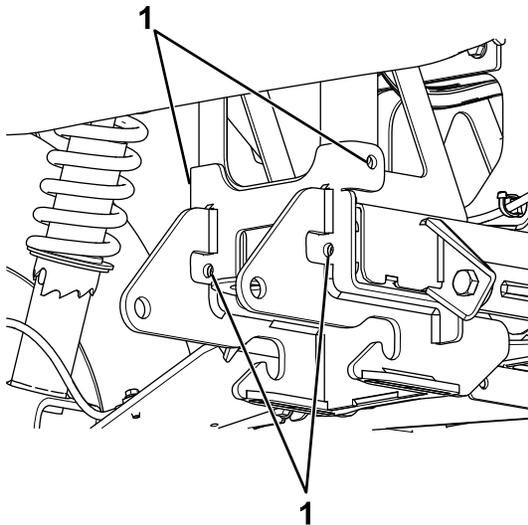

Figure 1
2. Using the plow skid plate as a guide, drill out the 4 holes shown in Figure 1 to 7/16 inch.